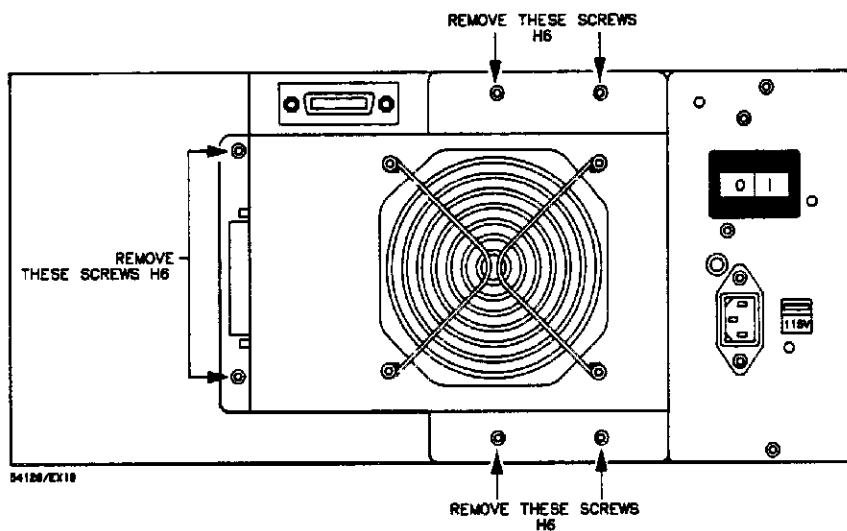

Figure 6A-6. Fan Housing Mounting Screws.
4. Remove fan housing mounting screws as shown in the figure 6A-6.